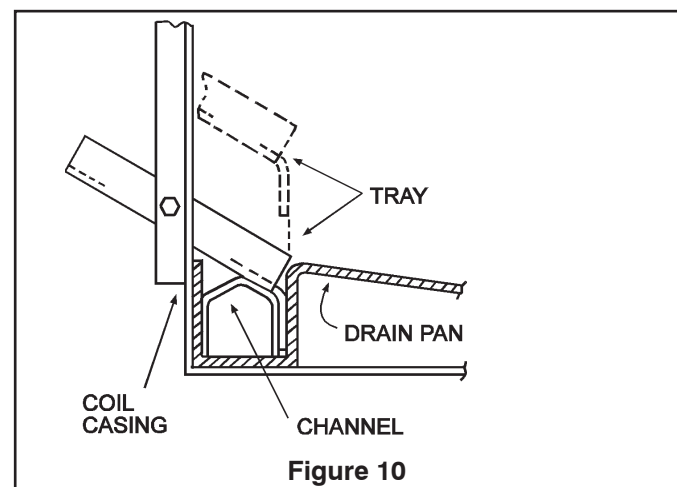

Figure 10
- g. There is a splash guard packaged with the coil. This guard is for horizontal left coil installation only. The guard has a bend which is inserted into the front channel of the horizontal drain pan on the outlet air side of the coil case. The guard is then rotated downward until it rests in the drain pan. One sheet metal screw is driven through the coil case duct flange on the front side and into the splash guard side hole. See Figure 10.